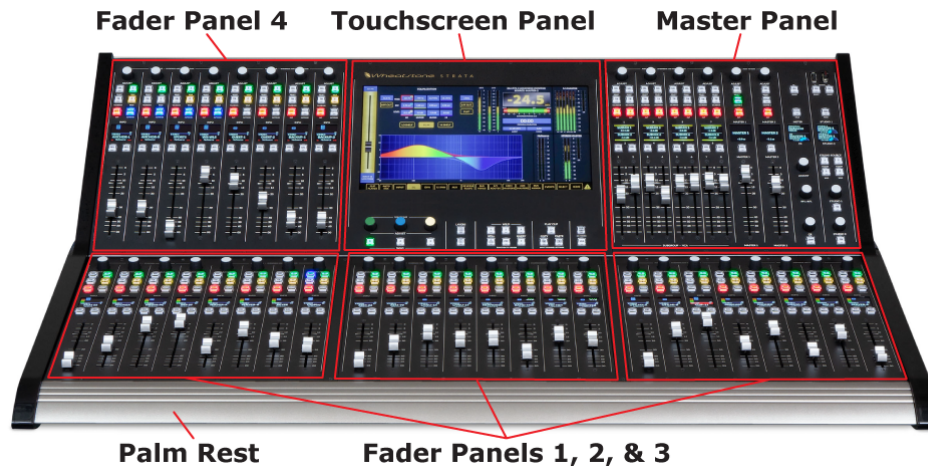

Figure 1-1 Strata Surface
**Strata Surface** – Commonly referred to as the "console," it has all of the board operator controls using three types of plug-in Panels: Fader; Touchscreen; and Master. Figure 1-1 identifies the major parts of the Strata Surface.
- **Fader Panels** – There are four identical Fader Panels (*Fader Panels 1 – 4* in Figure 1-1) on the Strata. Each panel consolidates the controls for eight physical fader channel strips into a single field-replaceable Fader Panel. Each Fader Panel plugs into a Host board using a CAT5 cable. The four Fader Panels give the Strata its thirty-two physical fader channels.